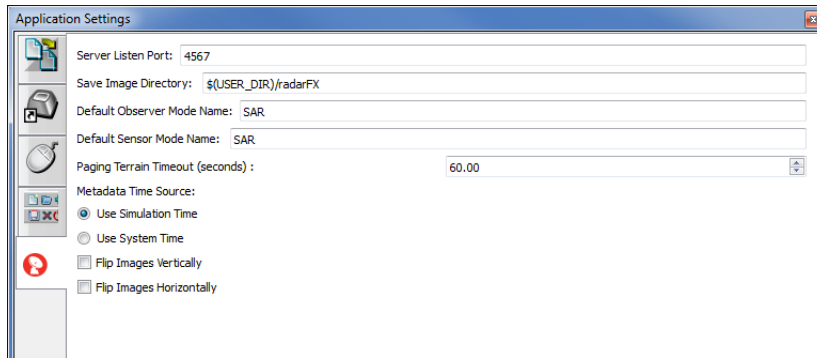

Figure 2-2. RadarFX Settings page
2. Select the RadarFX Server Settings page (Figure 2-2).